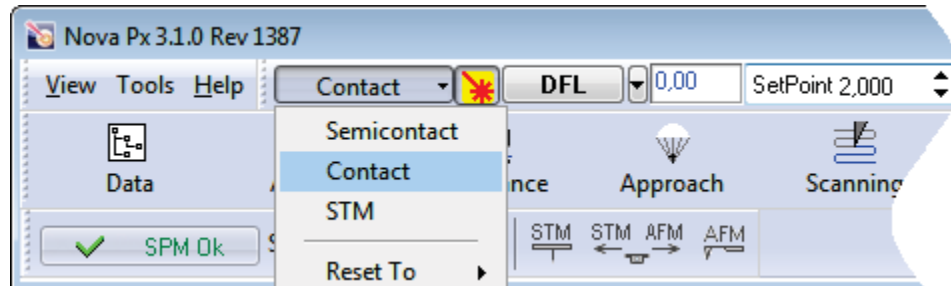

Fig. 11-1. Selecting the controller configuration
1. Switch the instrument to operate in contact modes by selecting **Contact** in the drop-down list of controller configuration (Fig. 11-1).